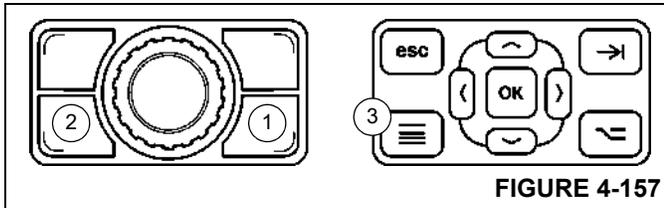

FIGURE 4-157
- Press the Screen Toggle Button (1), (Figure 4-157) at the Jog Dial to select the ODM screen control, then press the Menu Button (2).
- Press the Menu Button (3), (Figure 4-157) on the Navigation Control Pad at the ODM.